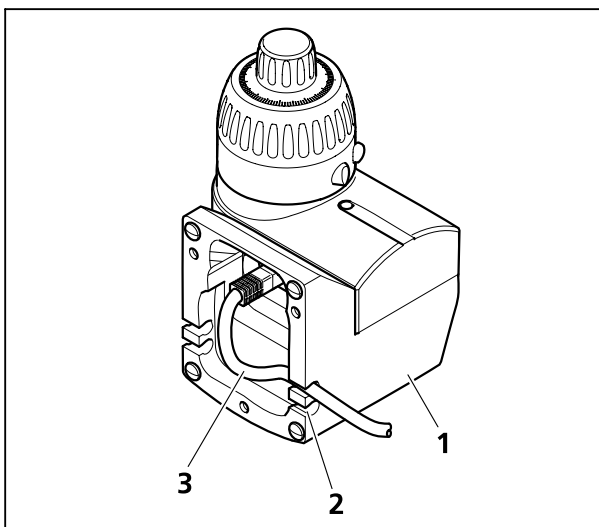

Fig. 30 Connecting the patch cable to MaRC mounted to the table-top base
- Connect the patch cable (Fig. 30/3) to the CAN bus connectors of MaRC (through the underside of the table-top base, Fig. 30/1) and the motorized focusing drive.
- Lead the patch cable through the table-top base bending it in a radius as large as possible (do not fold it) and pass it through one of the cut-outs (on the right or left, Fig. 30/1) to the outside.